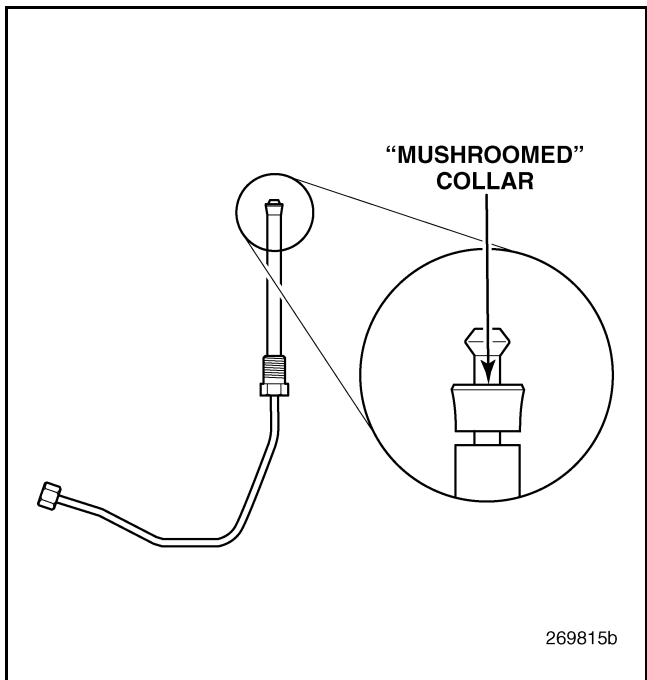

Figure 399 — “Mushroomed” Collar
2. Inspect the high-pressure fuel lines before installation. If the collars of any of the high-pressure lines are “mushroomed” or exhibit other types of damage, replace with a **new** fuel line. An example of a mushroomed collar is shown in Figure 399.